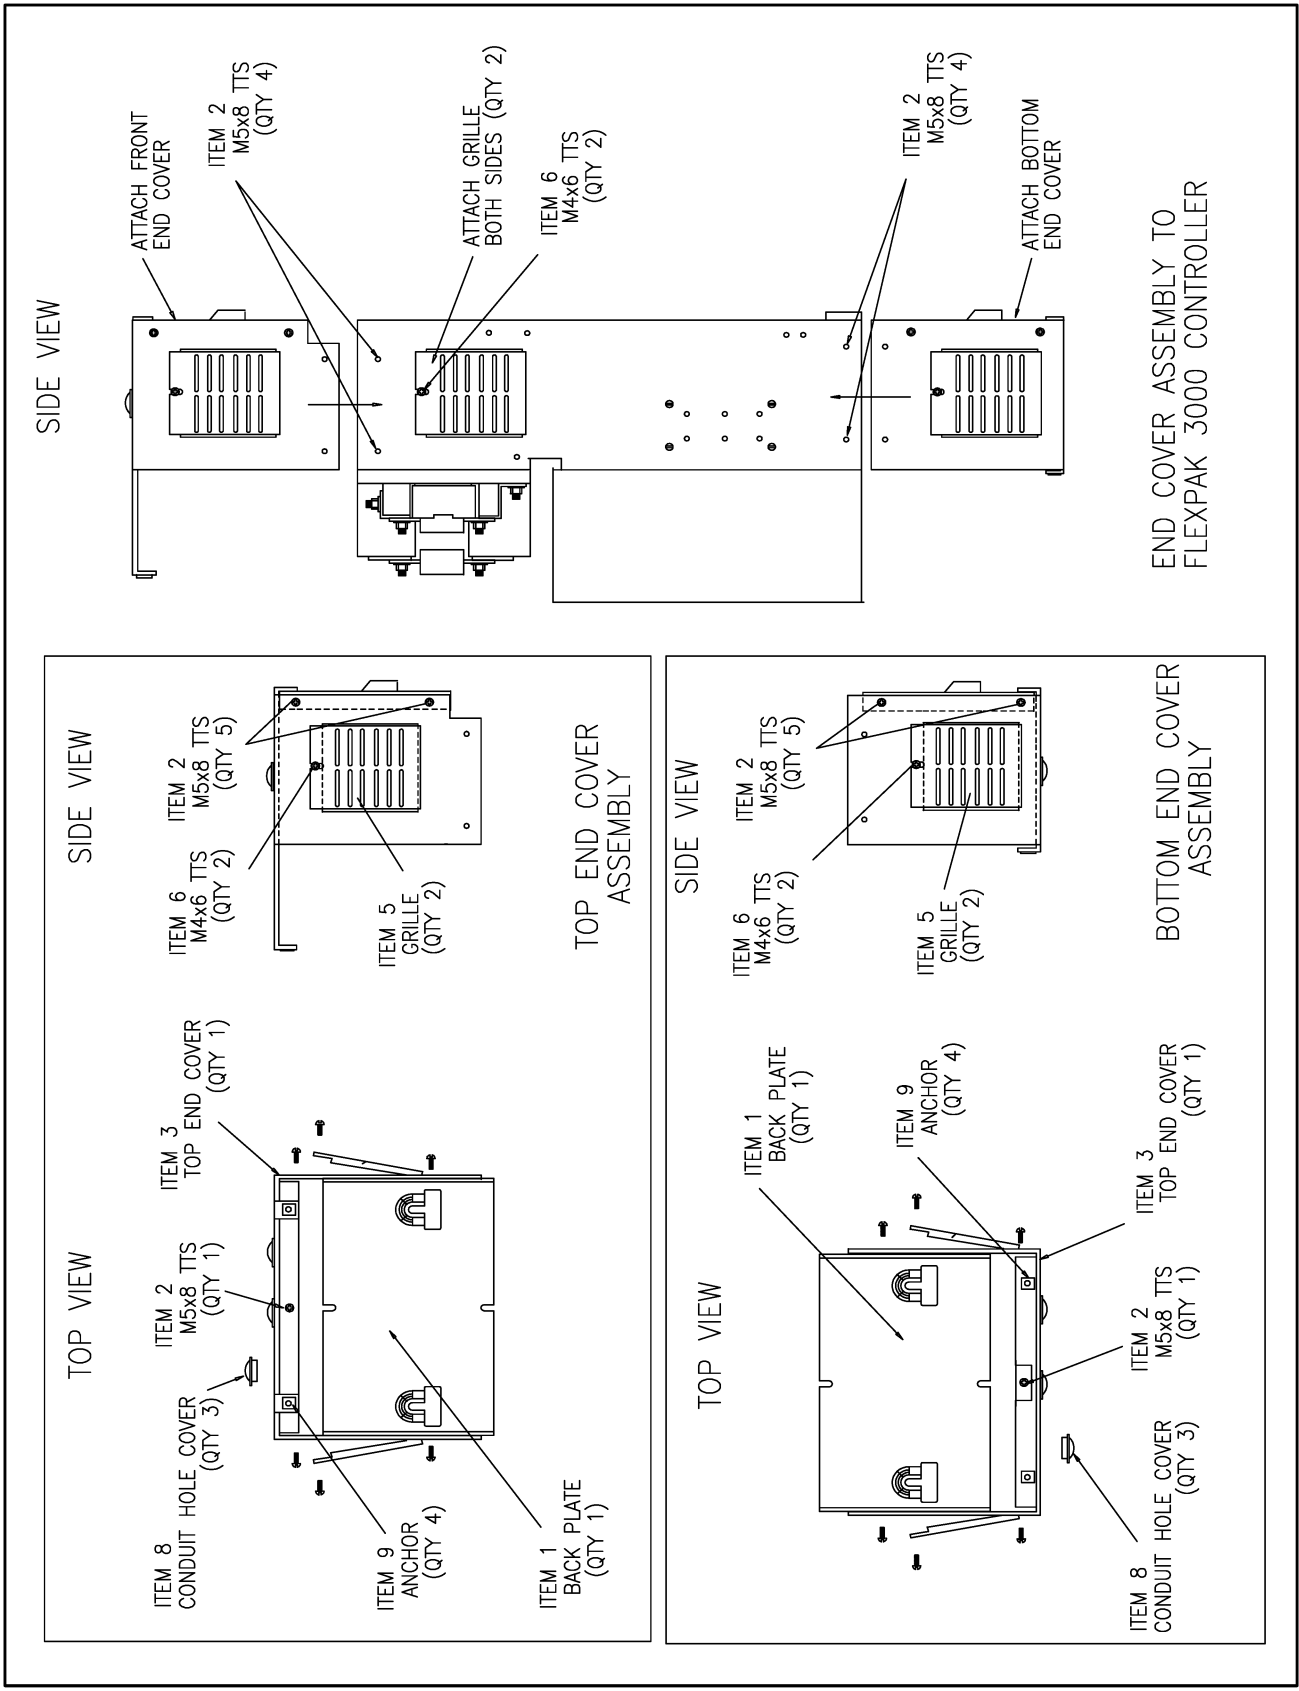

Figure 2 - Assembling the Top, Bottom and Sides of the NEMA 1 Cover
Refer to figure 2 when performing the following steps.
Step 14. Attach one of the grilles [Item 5] to each side of the top and bottom end covers, and one to each side of the drive chassis, as shown in figure 2. Use M4 x 6 self-tapping screws [Item 6] to fasten the grilles in place.